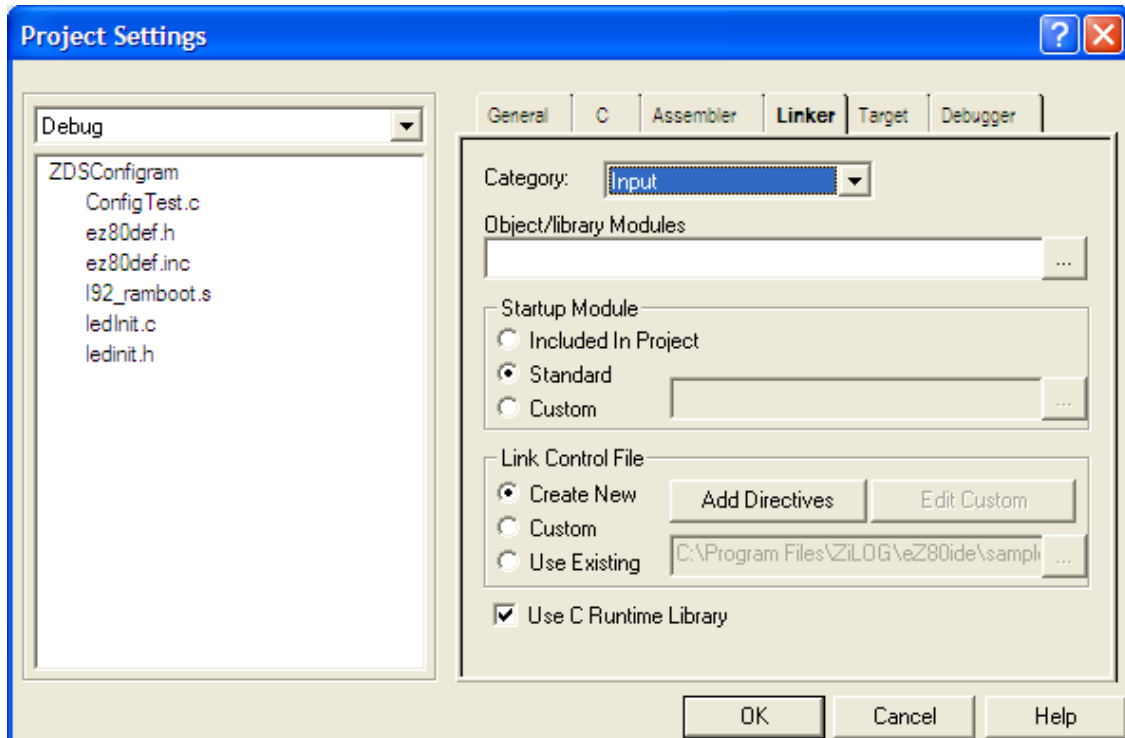

Figure 3. The Project Settings Dialog Box—Linker Tab, Input
- c. **Input Category**—please see Figure 3.